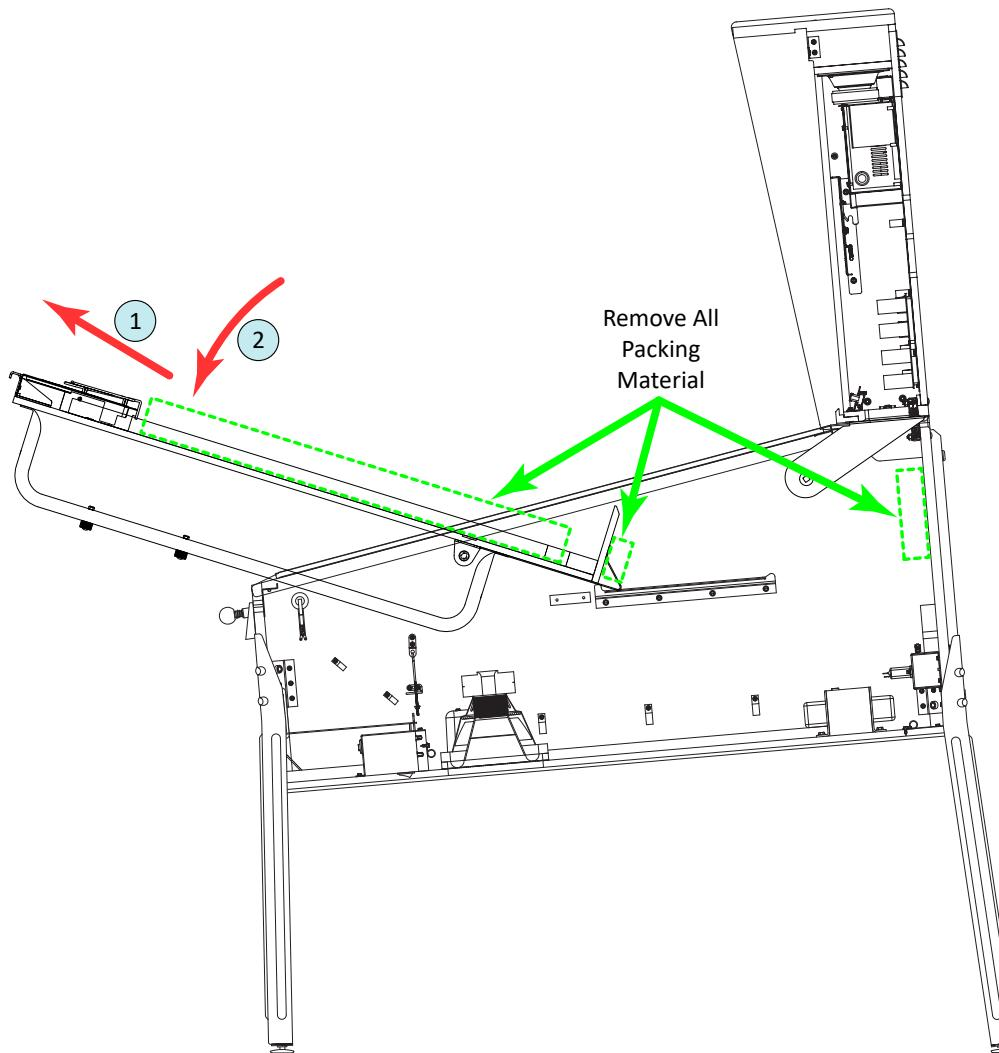

Figure A13. Moving the playfield to position 3; removing packing material.
14) Move the playfield from position 2 to 3 (figure A13). Pull it upward and outward until the second pair of feet in the support tubes reach the top of the lockdown bar receiver; again, lower the playfield, resting the feet in the channel. Remove any packing material from the playfield surface and/or shipping blocks from behind the back panel of the playfield/lower cabinet interior.